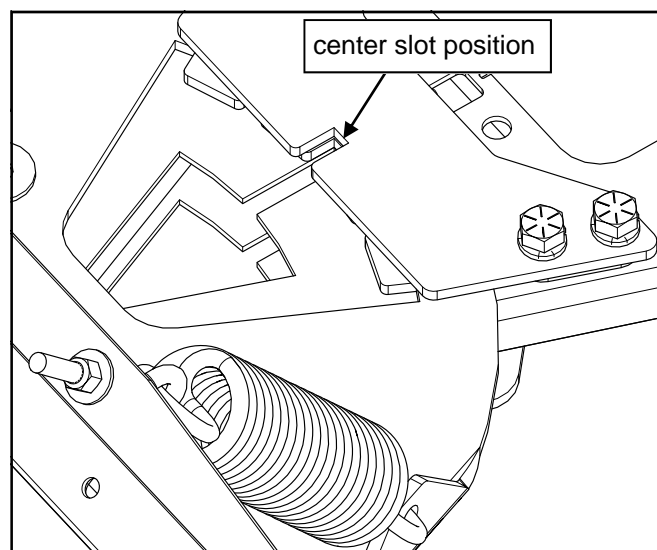

Fig. 3.3 (Angle Latch Handle - Receiving Slots)
3.3 Install the angle latch handle. For easiest installation, be certain A-frame is oriented with the trip frame blade angle slot aligned with the A-frame angle slot in the center position. See Fig 3.3.